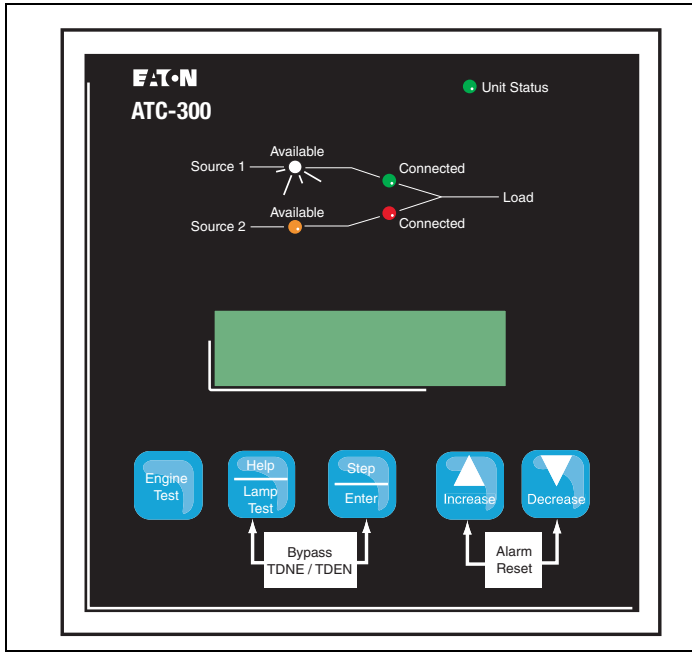

Figure 41.ATC-300 Logic (Utility Supplying Load)
- Step 5:** Apply Utility (Source 1) power. If the switch is properly applied for the system voltage ordered, the display should work and the Source 1 Available white LED should light (Figure 41). Using a voltmeter, check for proper system voltage on Source 1 and load terminals. Check all phases on a 3-phase switch. Voltage measurements should be taken phase to phase and phase to neutral.